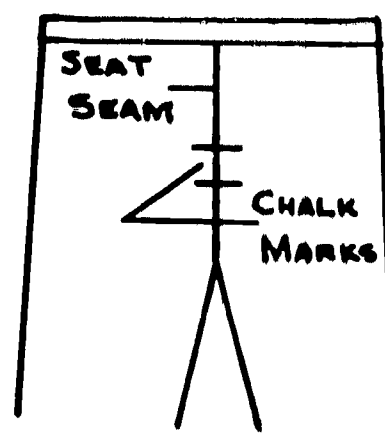

Figure 71.
2. Although the amount to be taken out of the crotch is marked by pinning a tuck across the back of the trousers, the alteration itself is made in the inseam in the crotch area. Mark the depth of the tuck with chalk on the back seam and remove the pins (see Figure 71).